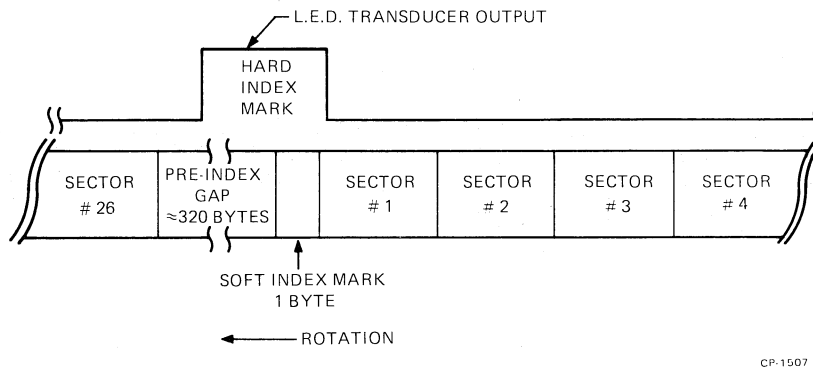
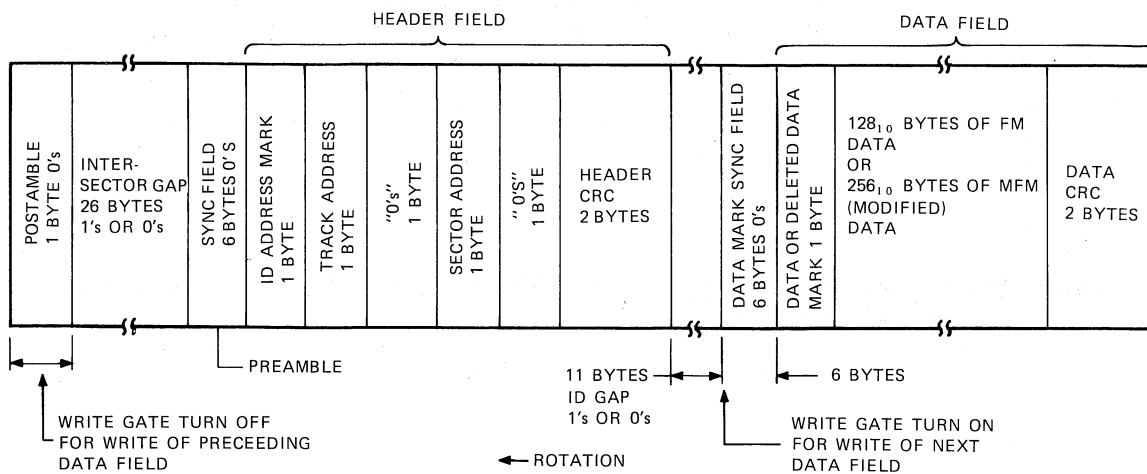

Figure 1-9 Track Format (Each Track)
Figure 1-10 Sector Format (Each Sector)
Data is recorded on only one side of the diskette. This surface is divided into 77 concentric circles or "tracks" numbered 0-76. Each track is divided into 26 sectors numbered 1-26 (Figure 1-9). Each sector contains two major fields: the header field and the data field (Figure 1-10).
1.5.3.2 Data Field Description – The data field contains either 131₁₀ or 259₁₀ bytes of information depending on the recording scheme. This field is preceded by a field of zeros for synchronization and the header field (Figure 1-10).